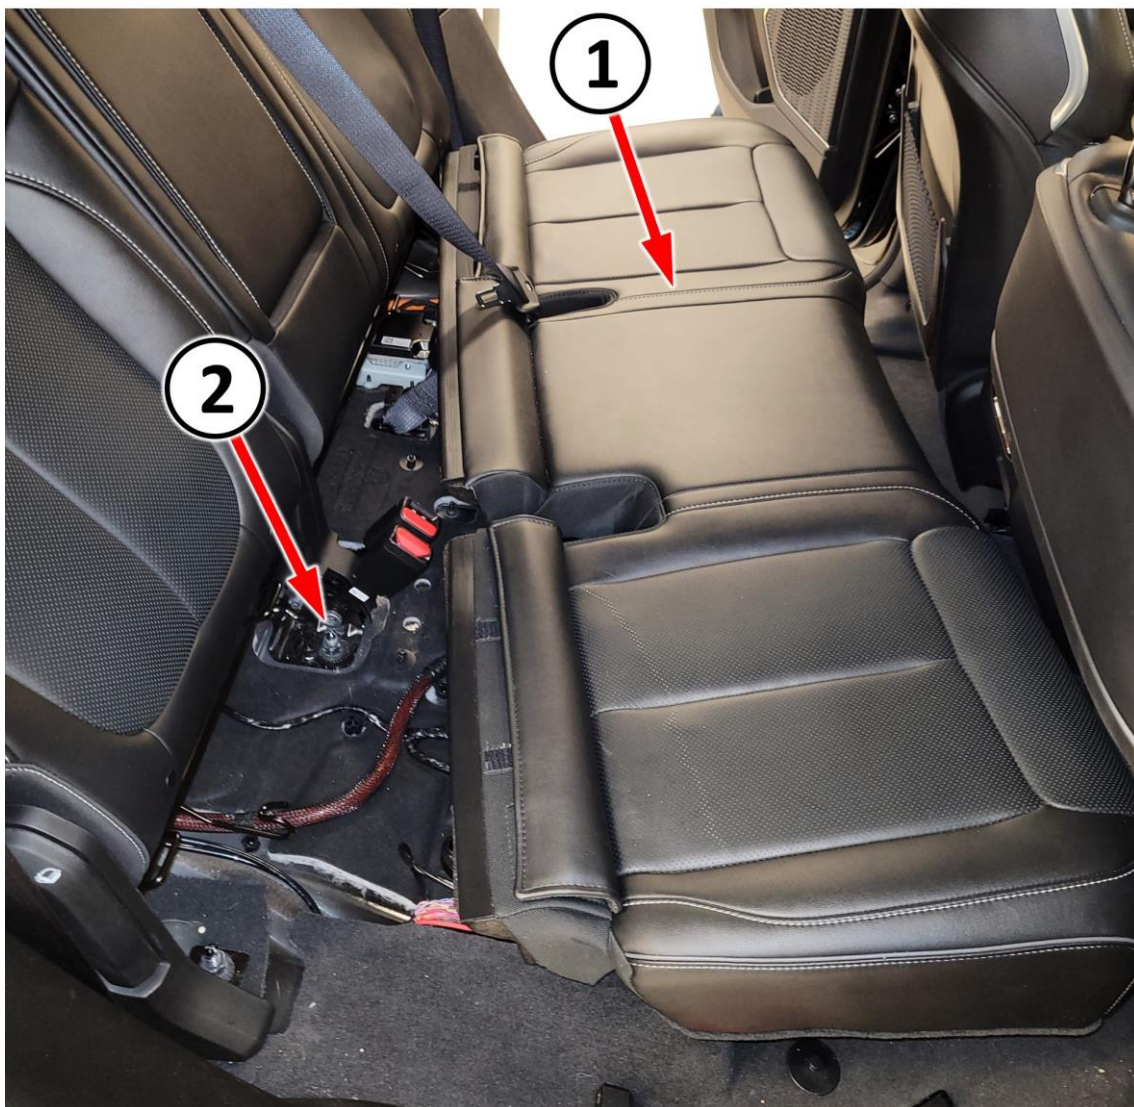

Figure 3 – Rear Seat Cushion Positioned Forward
6. Position the rear seat cushion forward to gain access to the center seat belt buckle bolts (Figure 3).